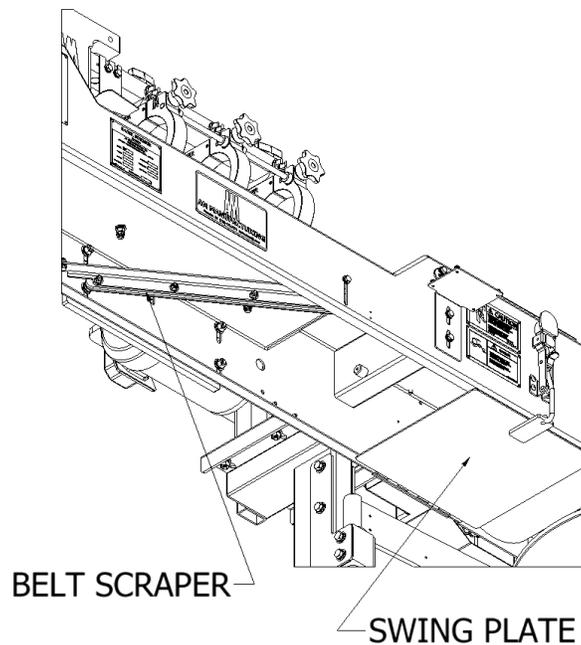

Figure 3: Scraper & Swing Plate
3. Clean the swing plate tensioner below the machine of any excess dough buildup. (Figure 3).
4. Clean any dough built up along the dough scraper below the bagel former. (Figure 3).